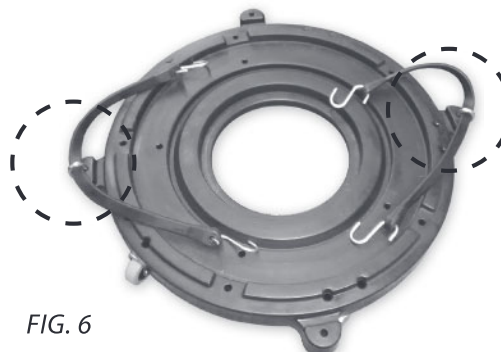

FIG. 6
- Insert the 5/16"-18 Square Nut (Q2) into the square pocket on the underside of the Molded Drum Dolly (R) and a 5/16"-18 X 2" J Bolt (Q1) in the indicated holes on opposing sides of the Molded Drum Dolly (R). DO NOT overtighten [FIG. 6].
- Secure the Rubber Strap with S Cuffs (Q3) at their halfway point underneath each J Bolt (Q1) as shown in [FIG. 6].
- Place 5 Gallon Pail (K) in center of Molded Drum Dolly (R), and then place the assembled unit on top of it